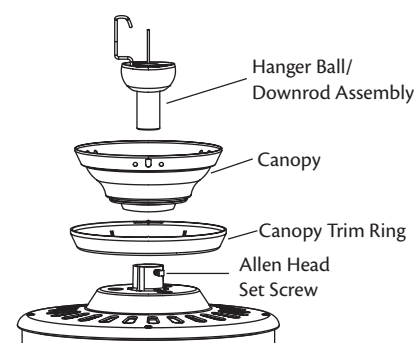

Figure 13 - Assembling the downrod
- Insert the downrod through the canopy and canopy trim ring as shown in Figure 13. Feed wires from the fan through the downrod.
IMPORTANT! Tighten allen head set screw as shown in Figure 13 with the included allen wrench.